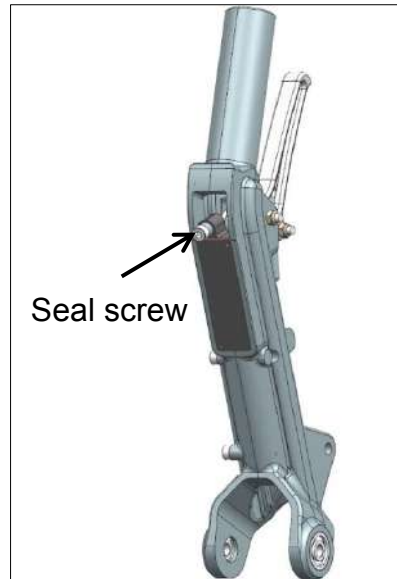

Figure 32-62: Seal screw location
4. Remove the seal screw from the master cylinder (Figure 32-62).